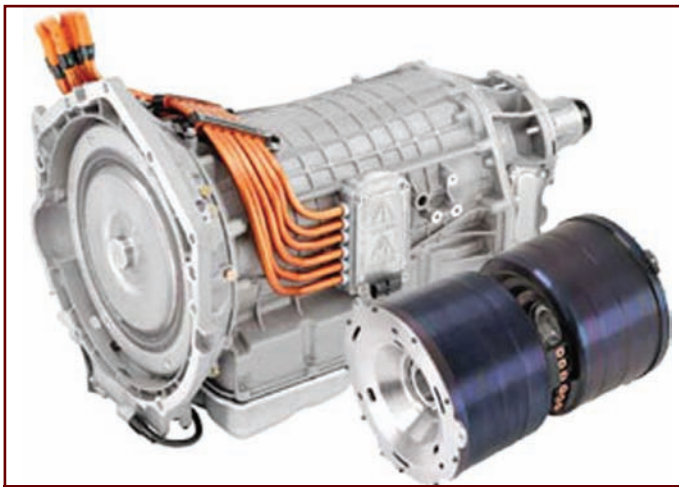

Figure 2
- 2, 65kW electric motors (drive motor #1, drive motor #2); Y-wound, 3-phase, 300 volts, permanent magnet (figure 2)
Drive Motors — The 2ML70 contains two, 300-volt, 3-phase, 65kW AC motor/generator assemblies (figure 2). The two permanent-magnet motors are mounted from each end of the transmission and are supported by the shafts/bushings and a support assembly. Three, high-voltage (orange) cables are attached to the transmission via rigid conduit around the transmission, which then transitions to flexible cable to attach the transmission to the Drive Motor Generator Control Module (DMGCM).